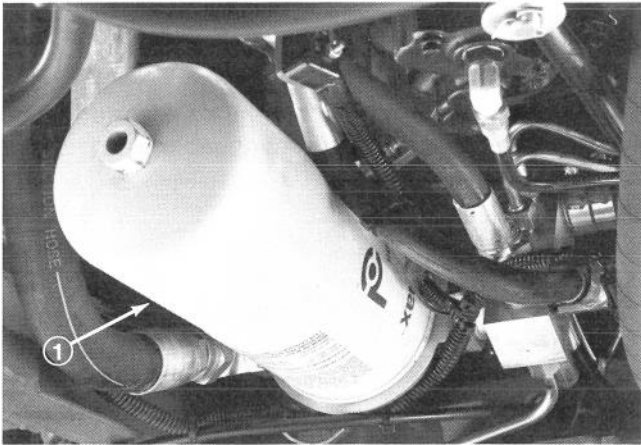

Figure 44
1. Place drain pan under filter and remove filter (Fig. 44).